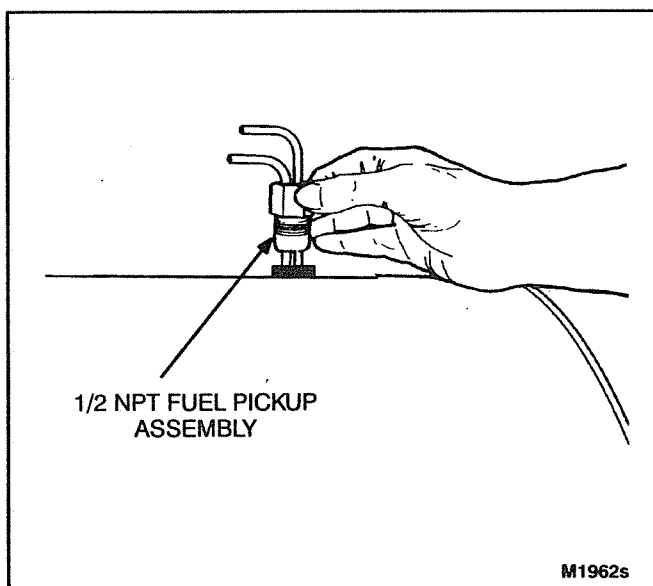

FIGURE 10-2. 1/2-INCH NPT PICKUP ASSEMBLY
3. Apply pipe sealer (or sealant tape) that is suitable for diesel fuel connections to the NPT threads. Install the pickup tube assembly (Figure 10-2) and tighten the fittings securely to prevent leakage.